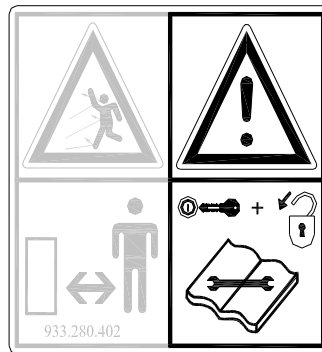
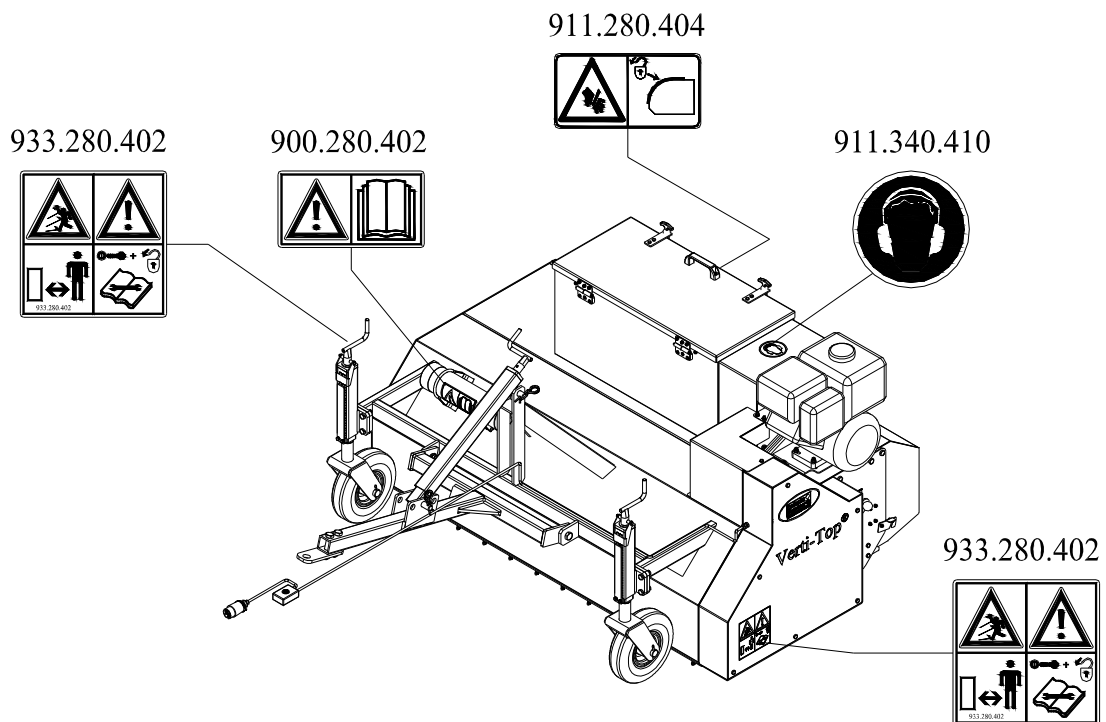

Figure 2
Fig. 5
Always switch off the towing vehicle's motor and take the vehicle's key out of the ignition in carrying out maintenance, adjustments and repairs (Figure 2).
Safety stickers (Figure 2, 3 and 4) with an identical meaning are attached to both sides (Figure 5) of the Verti-Top Pulled. These safety stickers must always be clearly visible and legible and must be replaced if they have become damaged.
7. Location of the safety stickers (Figure 5).